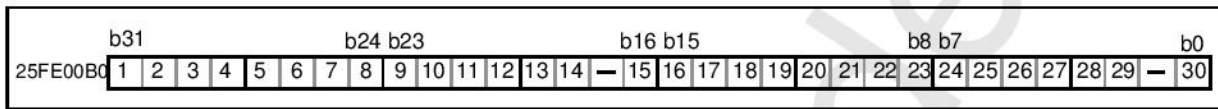

Figure 3.24 A-Bus Set Register [CS0, CS1 Spaces] (Register: ASR0) Initial Value 00000000H
Figure 3.24 shows the CS0 and CS1 spaces, and Figure 3.25 shows the CS2 spaces and dummy spaces of the A-Bus set register.
### CS0 Space Previous Read Bit (1 [bit 31] in Figure 3.24)
**Pre-charge Insert Bit After CS0 Space Write (2 [bit 30] in Figure 3.24)**
**A0WPC (W) A-Bus CS0 after Write Pre-Charge insert bit**
**Pre-charge Insert Bit After CS0 Space Read (3 [bit 29] in Figure 3.24)**
**A0RPC (W) A-Bus CS0 Previous Read bit**
**CS0 External Wait effective Bit (4 [bit 28] in Figure 3.24)**
**A0EWT (W) A-Bus CS0 External Wait effective bit**
**CS0 Space Burst Cycle Wait Number Set Bit (5~8 [bit 27~24] in Figure 3.24)**
**A0BW3-0 (W) A-Bus CS0 Burst cycle Wait bit 3-0**
CS0 Normal Cycle Wait Number Set Bit (9~12 [bit 23~20] in Figure 3.24)
CS0 Burst Length Set Bit (13~14 [bit 19~18] in Figure 3.24)
CS0 Space Bus Size Set Bit (15 [bit 16] in Figure 3.24)
CS1 Space Previous Read Effective Bit (16 [bit 15] in Figure 3.24)
Pre-charge Insert Bit After CS1 Space Write (17 [bit 14] in Figure 3.24)
Pre-charge Insert Bit After CS1 Space Read (18 [bit 13] in Figure 3.24)
**CS1 Space External Wait Effective Bit (19 [bit 12] in Figure 3.24)**
**A1EWT (W) A-Bus CS1 External Wait effective bit**
**CS1 space Burst Cycle Wait Number Set Bit (20~23 [bit 11~8] in Figure 3.24)**
**A1BW3-0 (W) A-Bus CS1 Burst cycle Wait bit 3-0**
**CS1 Normal Cycle Wait Number Set Bit (24~27 [bit 7~4] in Figure 3.24)**
**A1NW3-0 (W) A-Bus CS1 Normal cycle Wait bit 3-0**
CS1 space Burst Length Bit (28~29 [bit 3~2] in Figure 3.24)